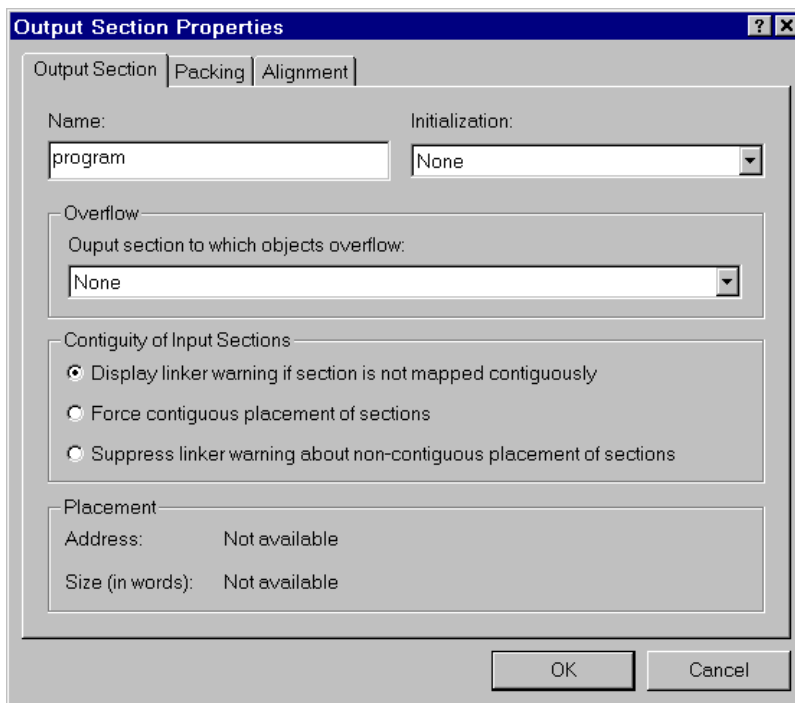

Figure 3-2. Output Section Properties Dialog Box – Output Section Tab
Use the **Output Section** tab (Figure 3-2) to change the output section's name or to set the overflow. The enhanced dialog box introduces new options—**Initialization** (for selecting the initialization qualifier for an output section) and **Contiguity of Input Sections**.
2. Choose **Properties** to open the **Output Section Properties** dialog box (Figure 3-2).